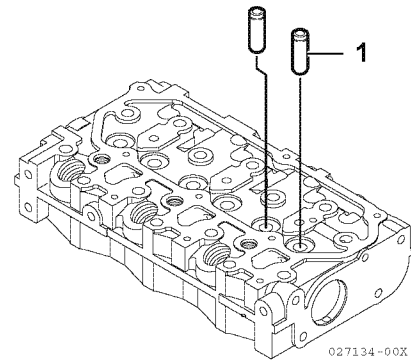

Figure 6-24
2. Immediately after removing the valve guides from the freezer, insert the valve guides (**Figure 6-24, (1)**) in their proper positions.